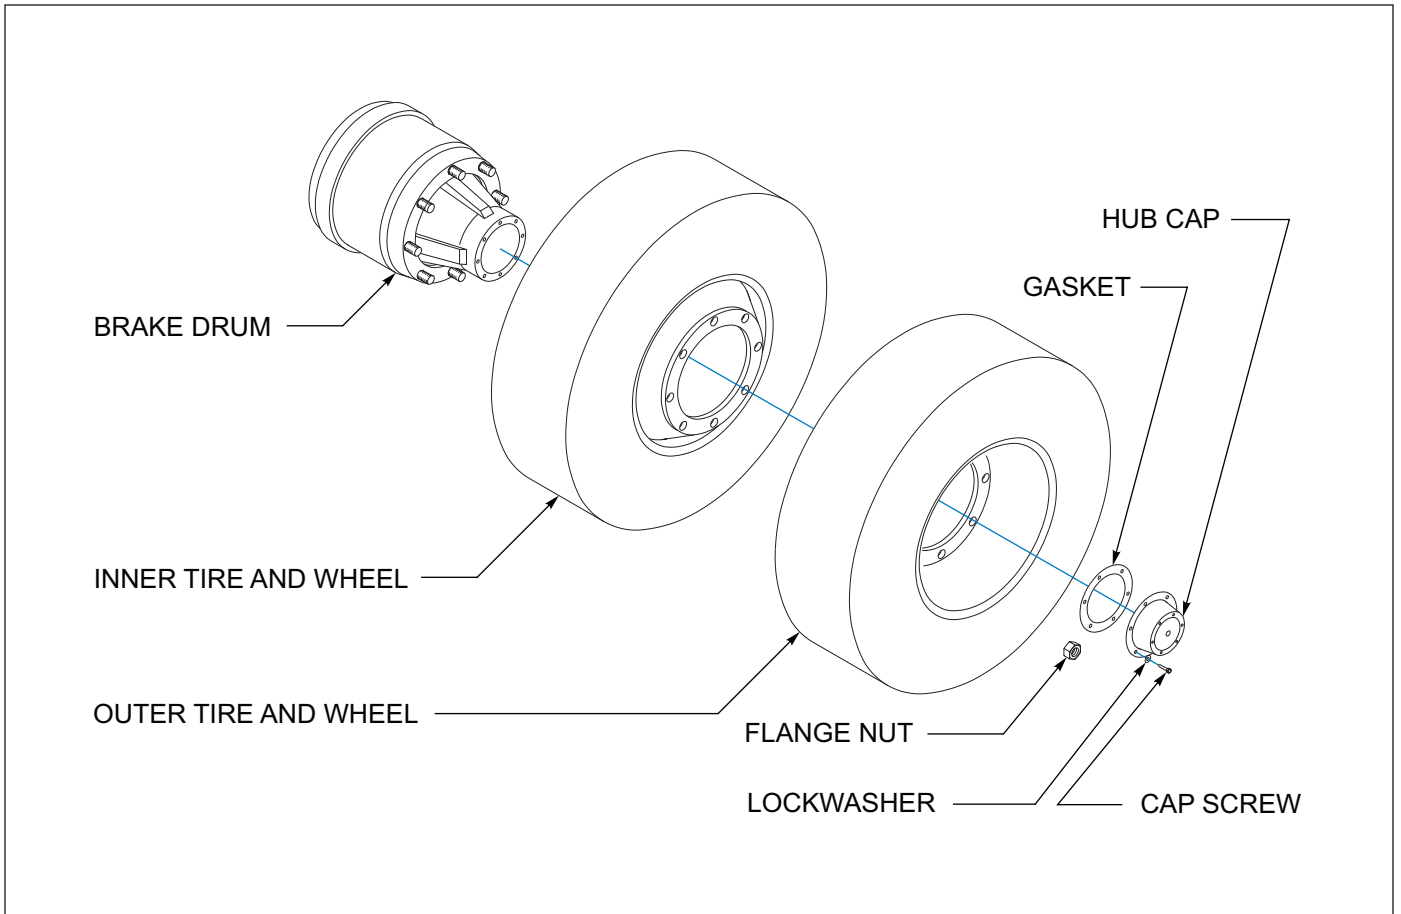

Figure 4-24: Mounting Tires and Wheels
1. Make sure that all mounting surfaces are clean and free of rust, dirt or paint. A wire brush may be used to clean these surfaces (*See Figure 4-24.*)